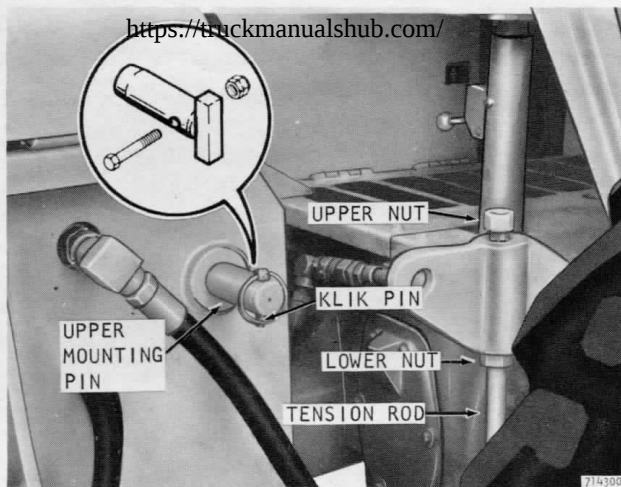

Figure 42 - Tension Rod Assembly
3. At the rear of the tractor there are two tension rod assemblies. Loosen the nut on top of each rod, Figure 42.